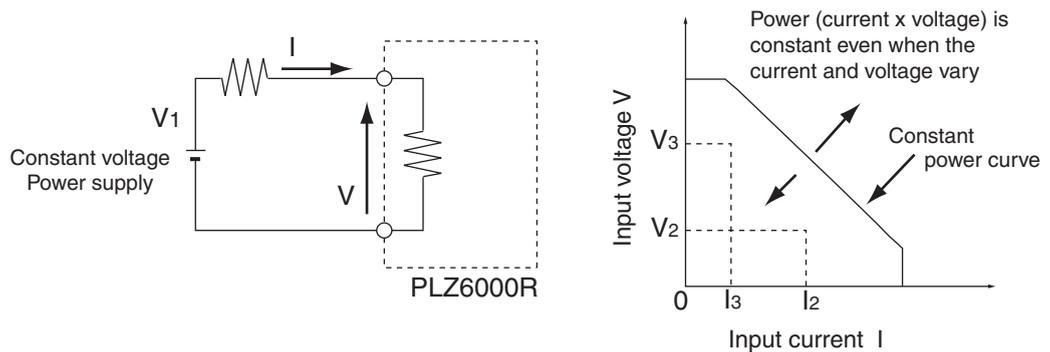

Fig.A-7 Equivalent circuit of the CP mode and operation
When the PLZ6000R is used in CP mode, the PLZ6000R operates as a constant power load as shown in Fig.A-7. When the voltage (V_1) of the constant-voltage power supply increases the input current (I) decreases so that the power consumed by the PLZ6000R $P = V \times I$ is kept constant. In Fig.A-7, $P = V_2 \times I_2 = V_3 \times I_3$.
We will consider the case when checking the load characteristics of the constant voltage power supply of Fig.A-7 using CP mode.